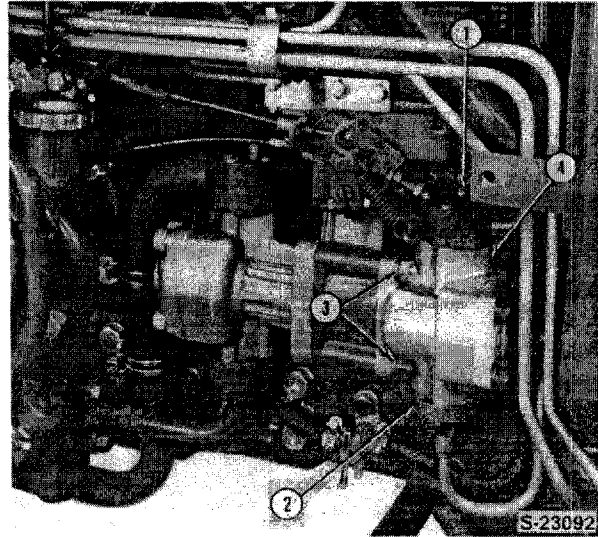

Figure 31
2. Remove the suction tube bolts (1), Figure 31.
3. Remove the pressure tube (2) from the bottom of the pump.
4. Remove the mounting bolts and nuts (3), Figure 31, and remove the pump from the front cover.